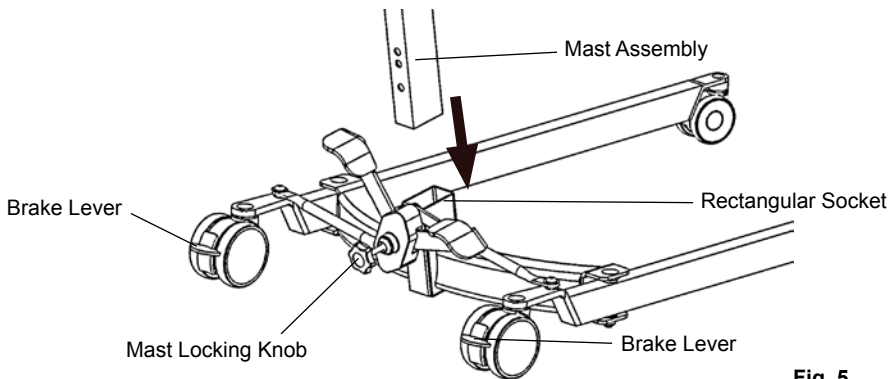

Fig. 5
2. Apply the rear castor brakes by pushing the brake levers (Fig. 5) downwards.
3. Fit the mast assembly to the chassis. The mast is located into the rectangular socket on the top centre of the chassis. (Fig. 5).
4. When the mast is fully engaged within the socket, turn the mast locking knob (Fig. 5) clockwise, until fully tightened.